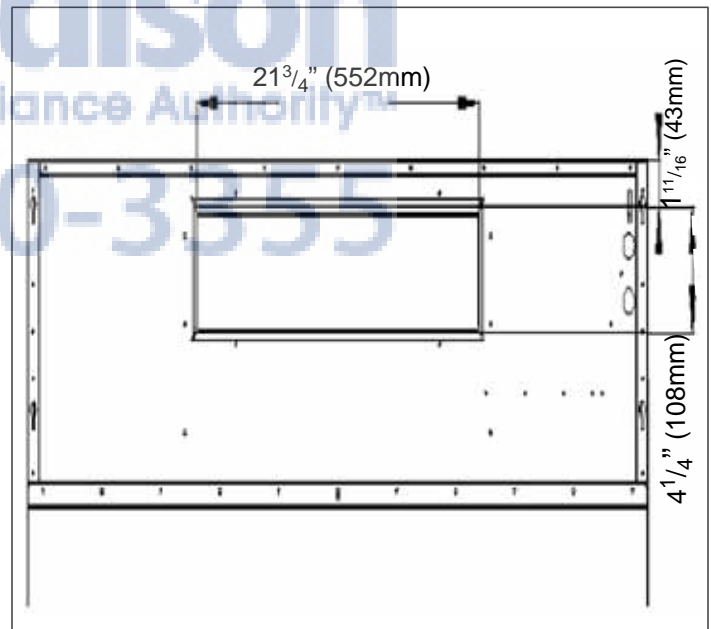
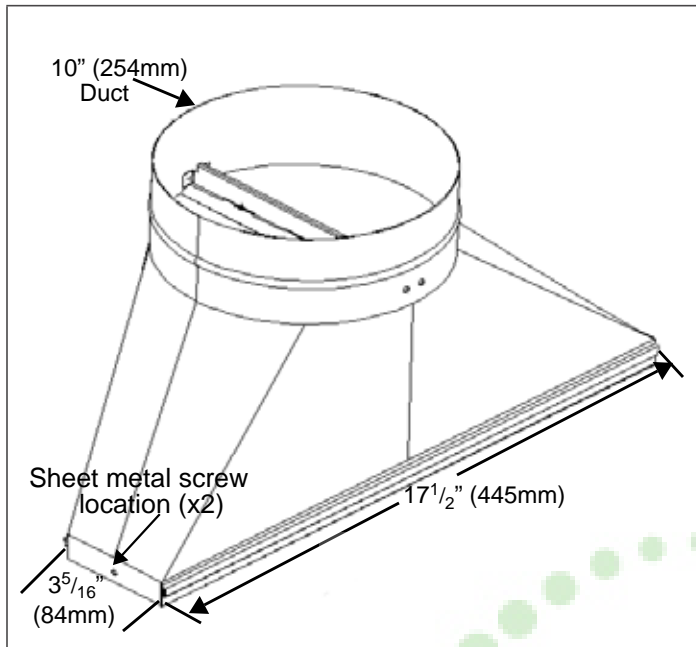

Figure 3: Transition Cutout
Figure 4: Transition Connection
3. Fasten transition to hood using (2) sheet metal screws included with hood (see Figure 3 and Figure 4).